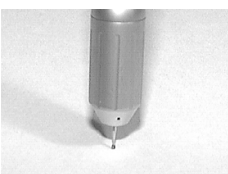
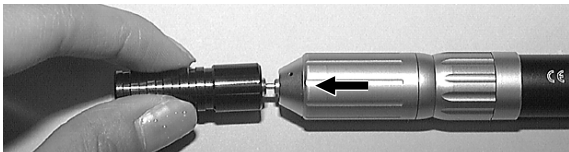

Fig.10
Fig.11
- (2) As the chuck of the PRESTO AQUA handpiece is a push-in type, set the FG burs of ø1.6mm and push in as shown in Fig.10. Push in the bur of which the end is tapered by using the designated bur-inserting wrench as shown in Fig.11.